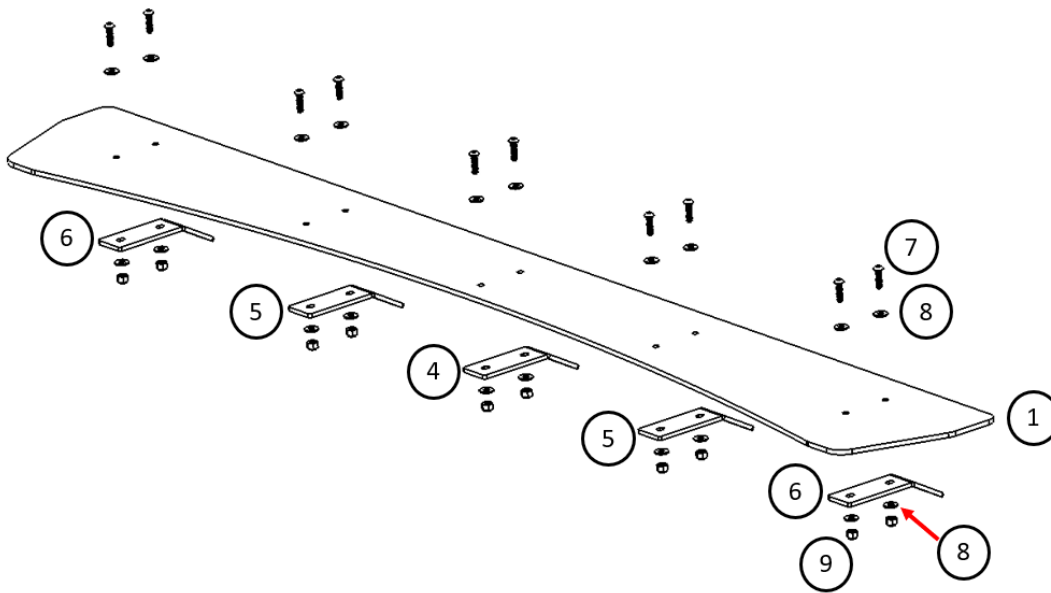
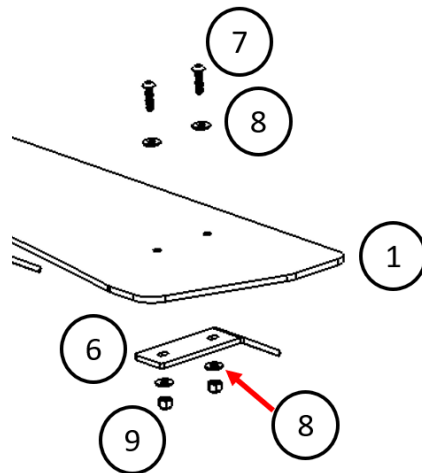

Figure 6: Wind Fairing Part Breakdown
Figure 7: Detailed view showing assembly hardware sequence
2. Bolt the wind fairing brackets to the wind fairing using the assembly hardware provided (Items 5, 6, and 7). This is shown in Figure 6 and again but larger in Figure 7. Since the nut used is a nylock nut, no Loctite is required
2. Bolt the wind fairing brackets to the wind fairing using the assembly hardware provided (Items 5, 6, and 7). This is shown in Figure 6 **Error! Reference source not found.** and again but larger in Figure 7.